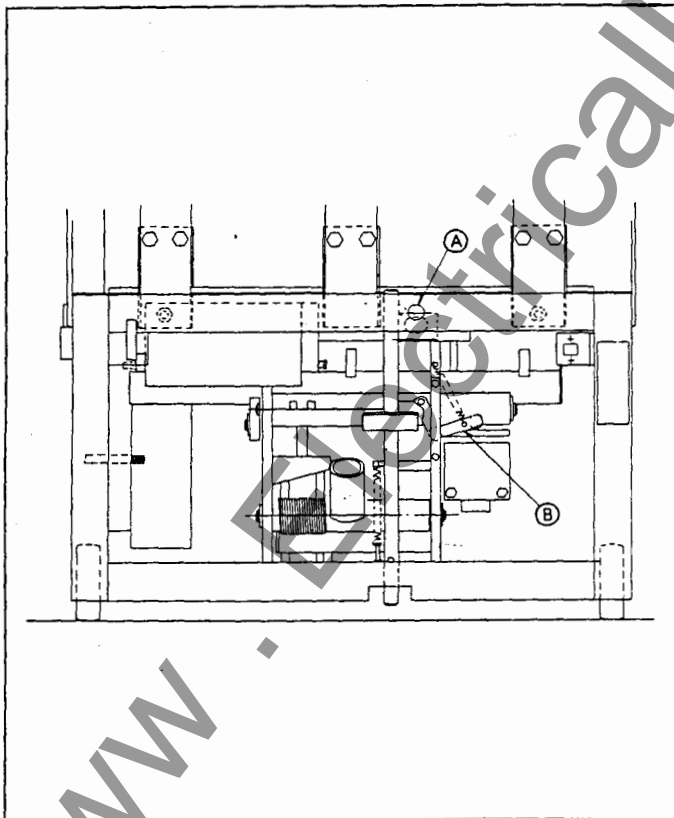

FIGURE 19
Interlocking must be adjusted to insure tripping of the breaker before the racking-in handle can be inserted. Fig. 19-A. This is done by adjustment of the eccentric cam on the interlock. Fig. 19-B.
9. Interlock, Fig. 19-B, should trip the breaker before crank can be inserted into hole. Fig. 19-A.